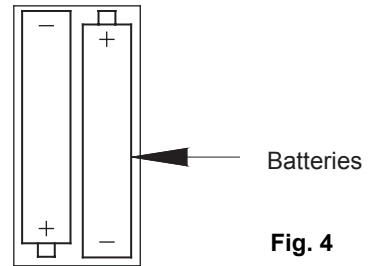

Fig. 4
- Install two AAA batteries into the remote control (see **Fig. 4**)